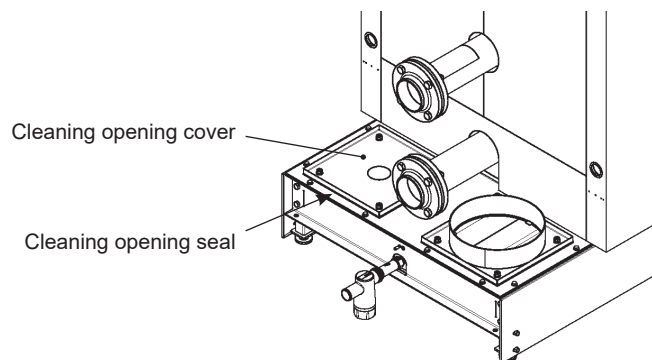

Fig. 56
- In order to achieve the necessary minimum level of the water dam in the siphon, fill in water until the siphon overflows (the cleaning opening (Fig. 56) can be used for filling in).